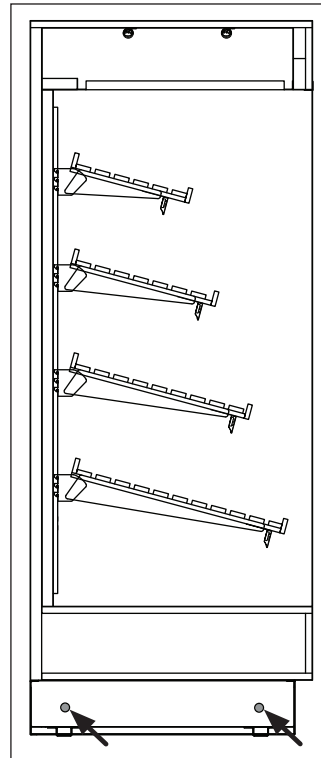

Fig. 4 Bolt locations (BWS-B-D)
4. Push the cases tightly together, then lightly bolt them together through the holes provided (Fig. 4 & 5). Tighten all the joining bolts until all margins are equal. Be careful not to over tighten.